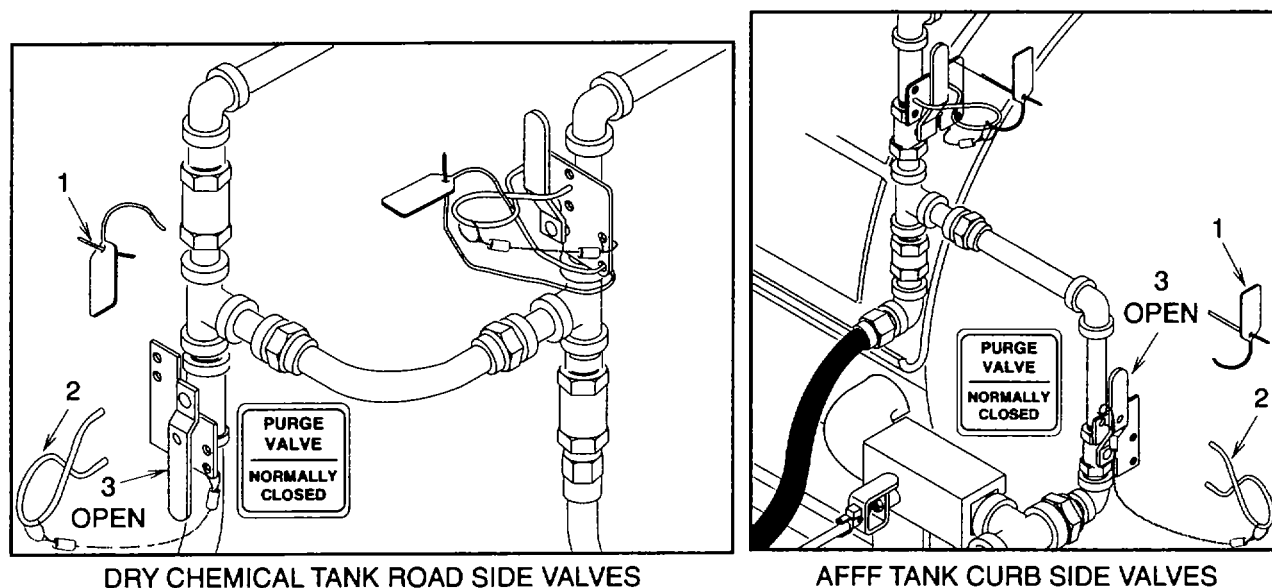
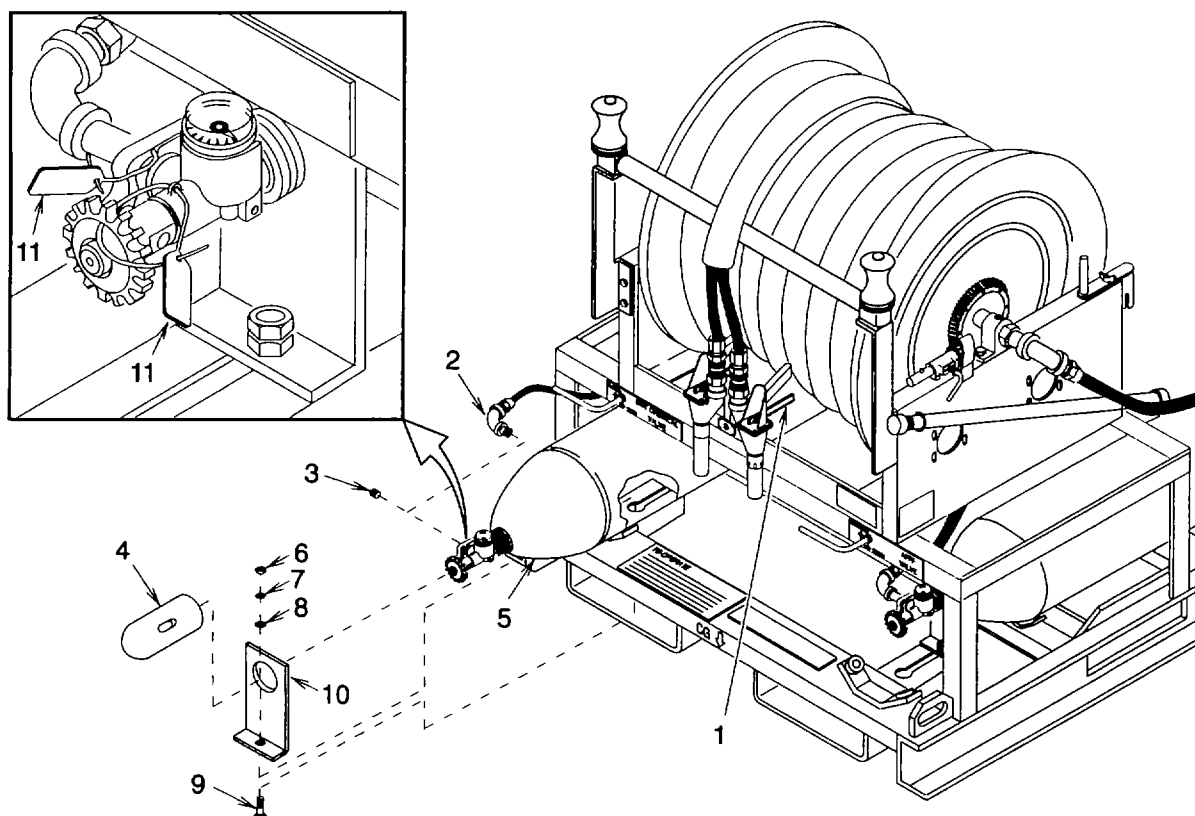

Figure 4-4. Ball Valves
Figure 4-5. Cylinder Removal
- (2) Relieve system pressure
- (a) Remove strip tie (1) (fig. 4-4).
- (b) Pull retaining clip (2).
- (c) Open ball valve (3).
- (d) Squeeze fire hose nozzle valve lever (1) (fig 4-5) to relieve system pressure.
- (e) Close ball valve (3) (fig 4-4)
- (f) Install retaining clip (2) over ball valve (3) handle.
- (g) Install new strip tie (1).
- (3) Remove hose assembly (2) (fig 4-5) from valve (1) (fig. 4-3) and install shipping plug (3) (fig. 4-5). Care must be taken to protect the hose assembly fitting from damage when loose
- (4) Place shipping cap (4) over valve and secure to cylinder (5). Hand tighten only.
- (b) Close (lower) quick release lever (2) and rotate cross shaft (3) until flat is horizontal
- (c) Turn hand wheel (1) fully clockwise (closed).
- (2) Carefully install full cylinder (5) (fig. 4-5) with gage facing up.
- (3) Slide stop plate (10) onto cylinder (5). Install screw (9), flat washer (8), new lock washer (7), and nut (6)
- (4) Remove shipping cap (4) and store for re-use.
- (5) Remove shipping plug (3), if installed, and store with shipping cap (4) for re-use.
- (6) Install hose assembly (2) onto cylinder (5) valve and tighten securely.
- (7) Check that two strip ties (11) are installed on cylinder (5) valve. If not, install them.
- (8) Check gage for pressure in cylinder (5). Pressure must not be below 1750 psi. (12075 kPa) for normal operation or below that listed in table 4-2 for current temperature.